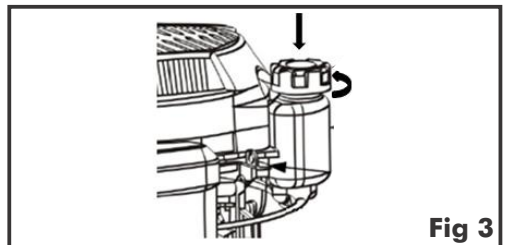

**Fig 1**
- Assemble the frame as shown in the Figure 1 and ensure that the equipment is complete.